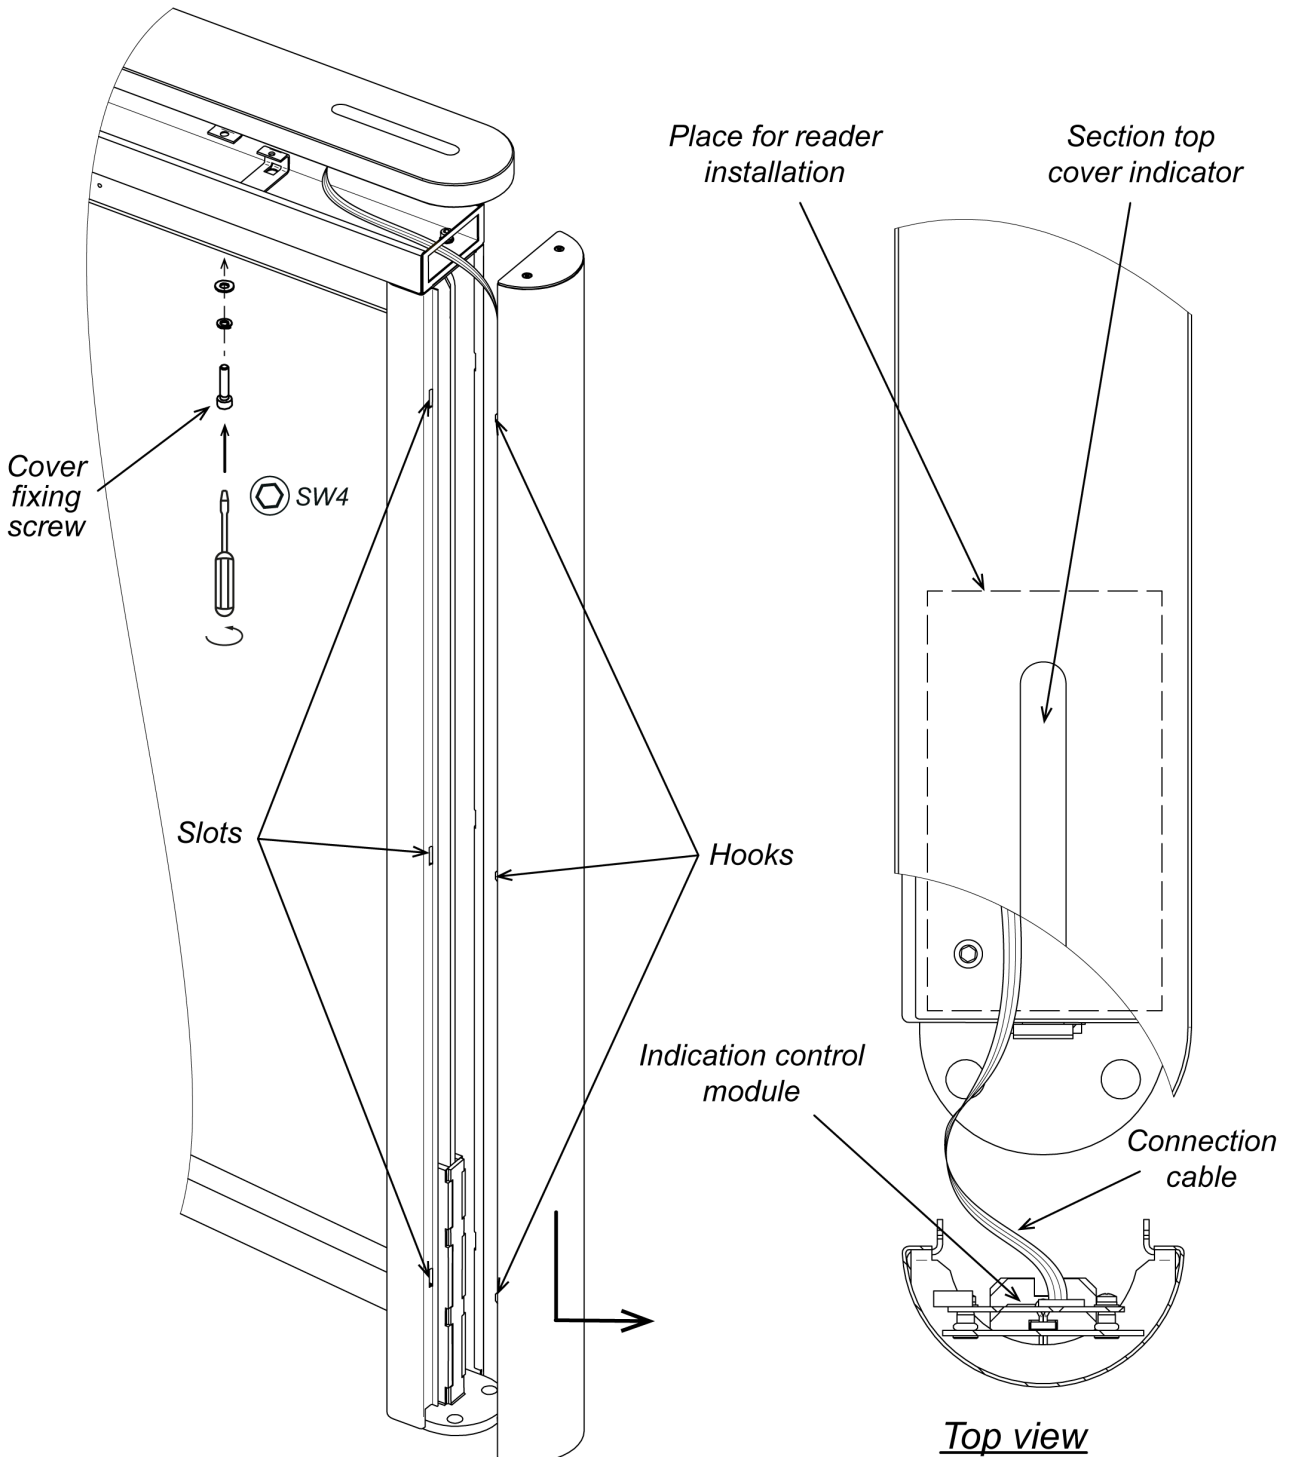

Figure. 20 Side post front panel disassemble
21. If necessary, install the card capture readers in the top duct of the section (fig. 20).
Remove the side post front panel (10), moving it up along the post and then pull it, bringing the hooks from slots in the side post (Fig. 20). Be careful not to damage the connection cable! Disconnect the connection cable output from the front-end indication block.
- Connect the connection cable from the indication control module ("PASS" connector, Fig. 20) to the indication plate